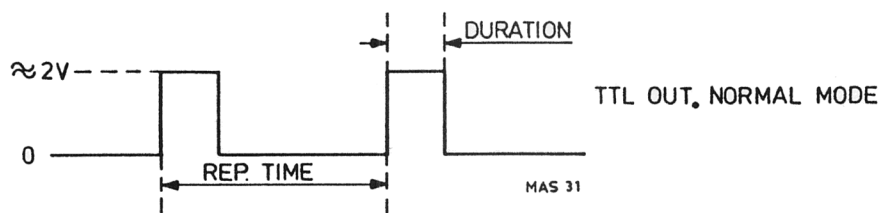
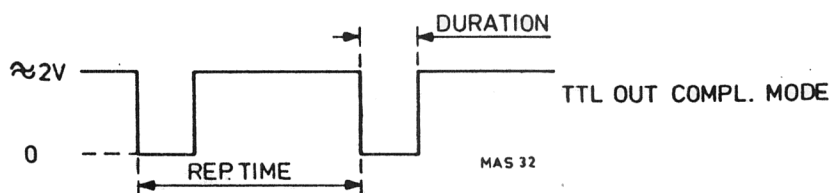

Fig. VI-9 TTL pulse, normal mode PM 5704
Fig. VI-10 TTL pulse, complementary mode PM 5704
- Note the relationship between repetition time and duration, fig. VI-9 or fig. VI-10.
Observe the normal and complementary TTL pulse, fig. VI-9 and fig. VI-10.